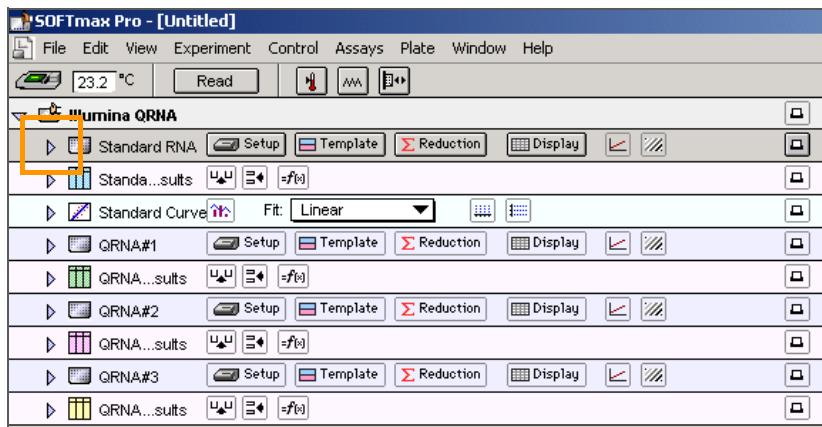

Figure 15 Select Lambda Standards Screen
6. Click the blue arrow next to **Lambda Standard** (Figure 15).